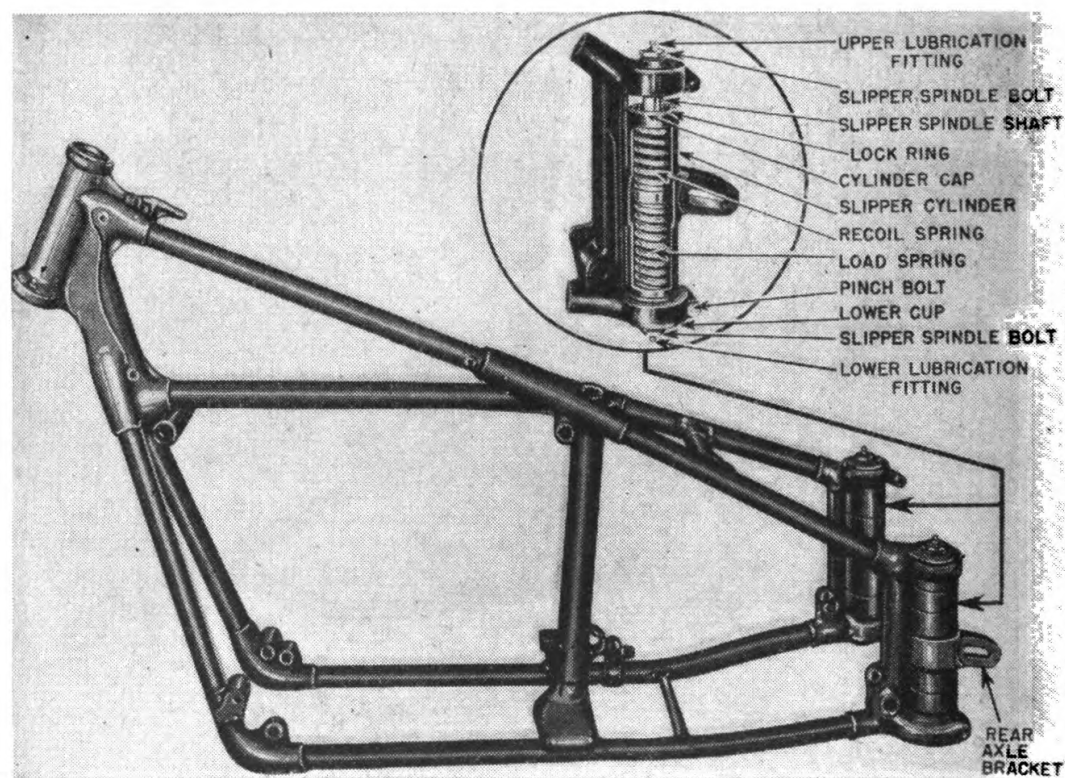

FIGURE 27.—Double-loop frame with rear spring suspension.
c. The double-loop frame (fig. 27) is another type of frame construction. Coil springs, mounted on the rear-wheel fork, cushion the frame from road shocks very much like the knee-action unit on an automobile. The rear-wheel axle fits into the brackets on the slipper cylinders (spring housings). The slipper cylinder is set at a very slight angle so that the rear wheel is free to move up and down without stretching the final drive chain. The load (lower) springs
**40. Frames.**—*a.* Double-loop type frames (fig. 27) are used on the shaft-driven models. They are made of light-weight steel tubing which may be heated slightly for straightening. (Frames of the chain-driven models must be straightened cold.) Welds are used in place of fittings to join the frame tubing, further reducing weight and increasing strength.